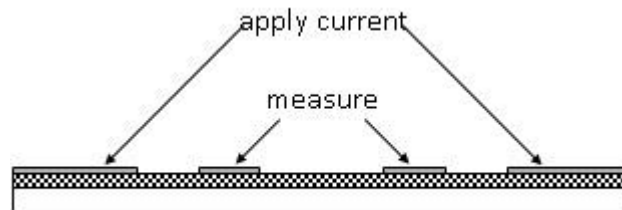

Fig. 1: Scheme of electrode connection to the membrane strip.
Theory: Membrane conductivity can be measured in cross or longitudinal direction. With respect to experimental error longitudinal arrangement gives more reproducible results. The measurement is realized by electrochemical impedance spectroscopy (EIS) in a four-electrode arrangement, see Fig. 1. Membrane conductivity is calculated on the basis of its determined resistivity and sample dimensions using Eq. (1).